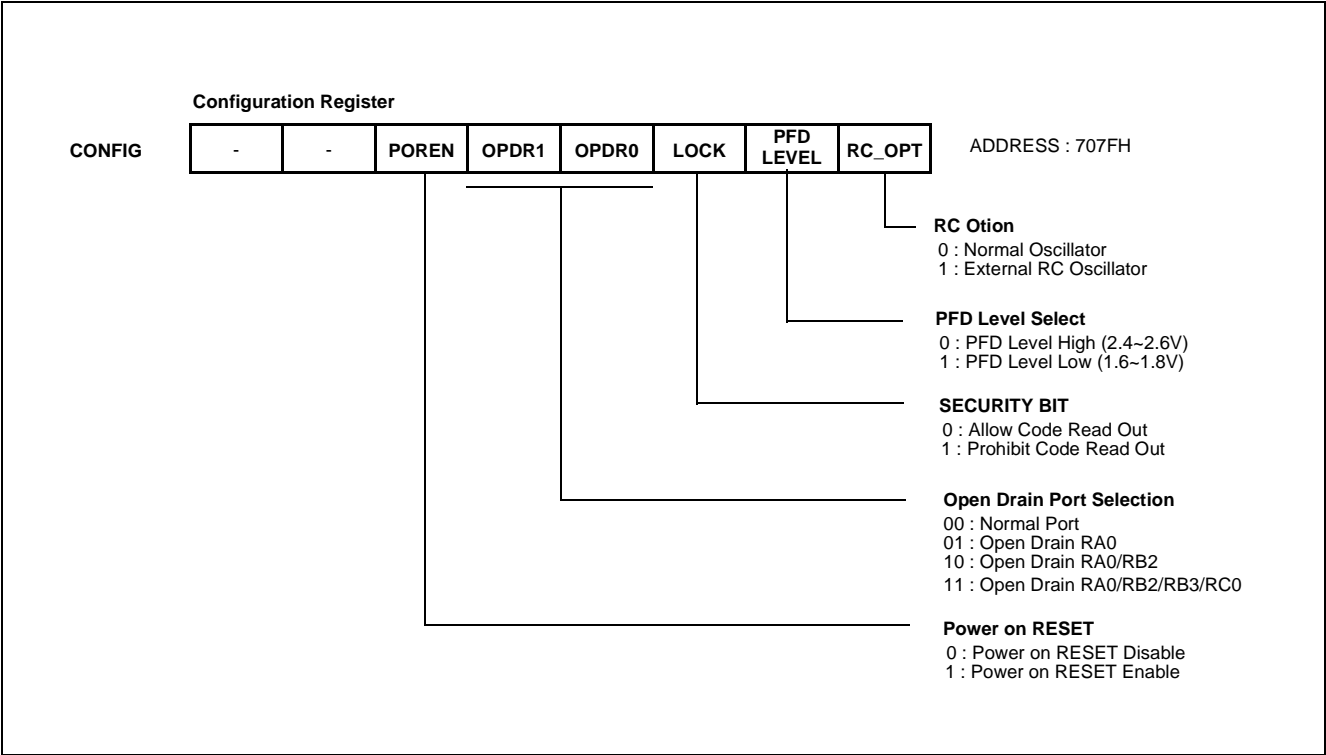

Figure 20-1 Device Configuration Area
The HMS87C130XA incorporates on-chip Power-On Reset (POR) circuitry which provides an internal chip reset for most power-up situations. To use this feature, the user merely ties the RESET pin to  $V_{DD}$  and setting the POREN bit of CONFIG register ( refer to Figure 20-1).
**Note:** Power fail detect level is decided by setting the bit PFDLEVEL of CONFIG register (refer to Figure 20-1).